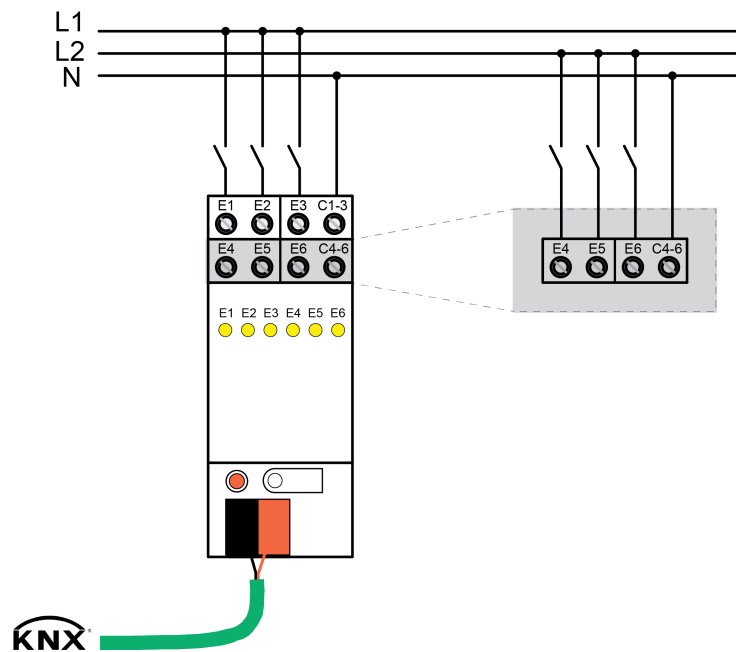

Figure 2: Connection mains supply circuits
- Connect FELV-supplied circuits as mains-supplied circuits according to the connection example (Figure 2)Connecting .